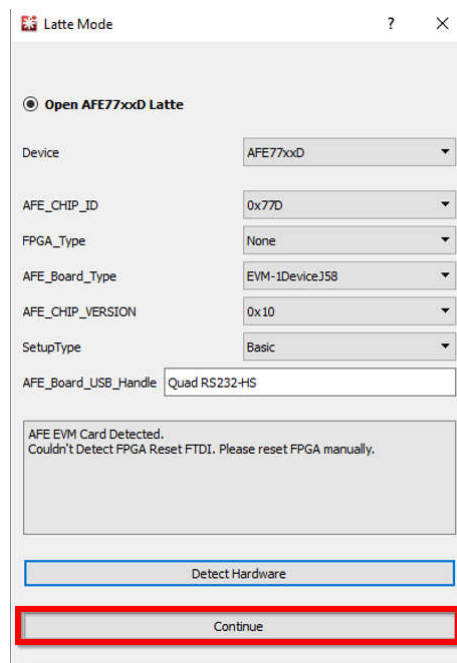

Figure 3-8. Launching AFE77xxD Latte Software
1. Open the AFE77xxD Latte GUI version 1.4. Make sure the interface looks like Figure 3-8, then click Continue. The message “Couldn’t Detect FPGA Reset FTDI. Please reset FPGA manually.” is expected and can be ignored.